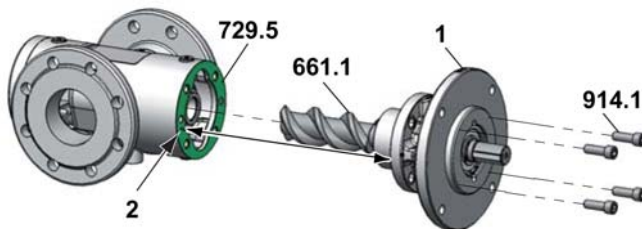

Fig. 27
7. Slide the main screw with premounted flange cover into the pump housing until the main screw engages into the idle screws. Take the position of the straight pin **2** into account and turn the main screw, see Fig. 27.